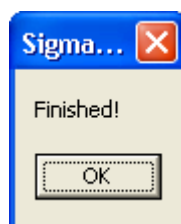

Fig. 5.41 The converting finishes
Step 4: Click  and the converting will start. In Fig.5.41, the indication window appears when the converting finishes.